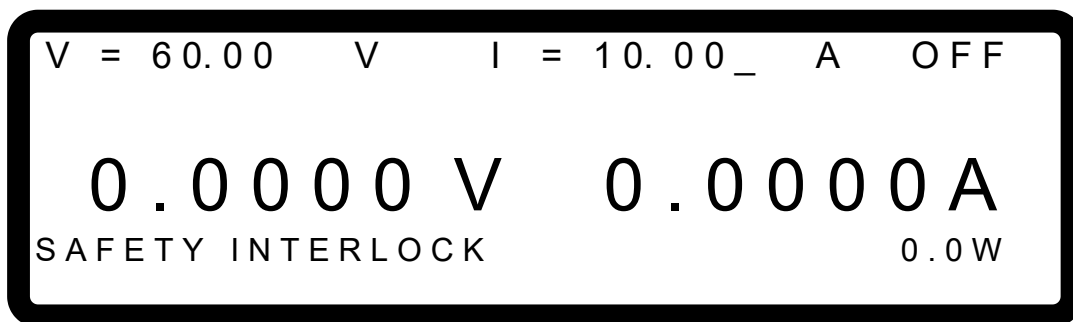

Figure 3-74
3. When protection occurs to SAFETY INT.LOCK the main page will appear the protection message as Figure 3-74 shows.